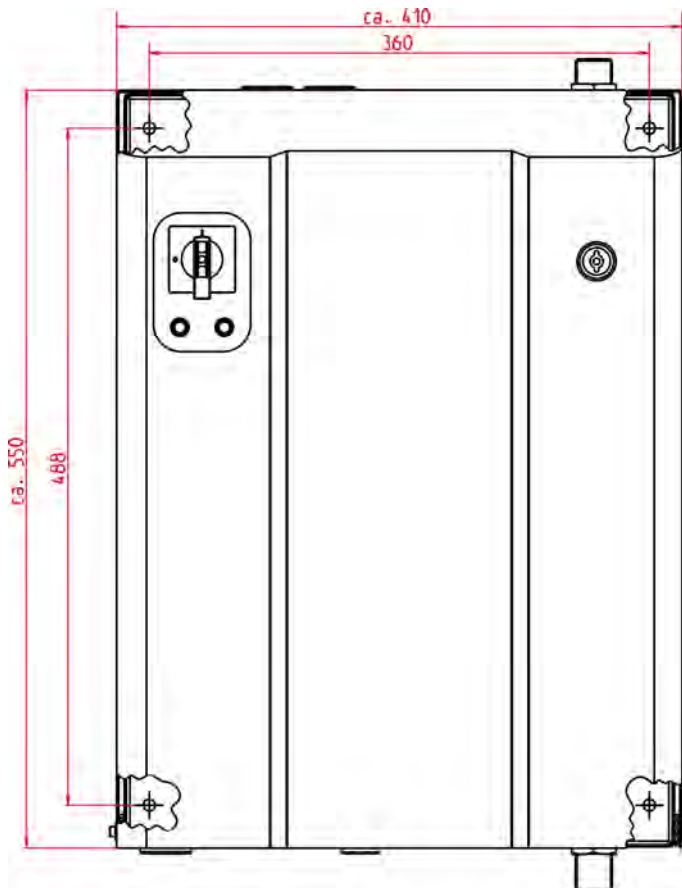

Fig. 3: Wall mounting: Lub-O-Mat Eco
2. ➤ Using a folding rule, measure the above dimensions (Fig. 3) for the drill holes.